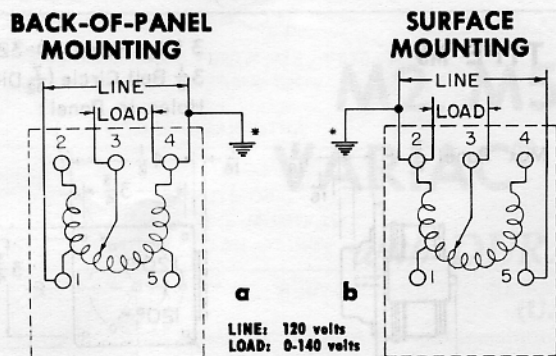

Figure 5. Recommended overvoltage connections
2.5 WIRING. Wiring circuits are shown in Figures 5 and 6. When making connections, avoid loose “whiskers” and keep wiring free from contact with working parts.